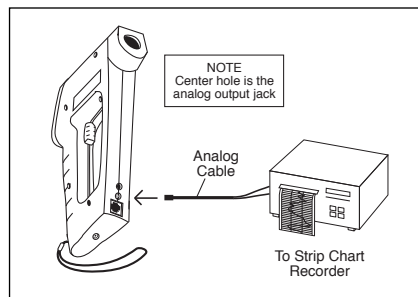

Figure 2-7 Recorder Hookup
4. To record the temperature profile across the surface, connect the IR thermometer to a strip chart recorder. Refer to Figure 2-7 for details. The IR thermometer provides an analog output of 1mV/degree.
4. To record the temperature profile of the moving surface, connect the IR thermometer to a strip chart recorder. Refer to Figure 2-7 for details.
2. Connect the analog output of the thermometer to a strip chart recorder as shown in Figure 2-7.